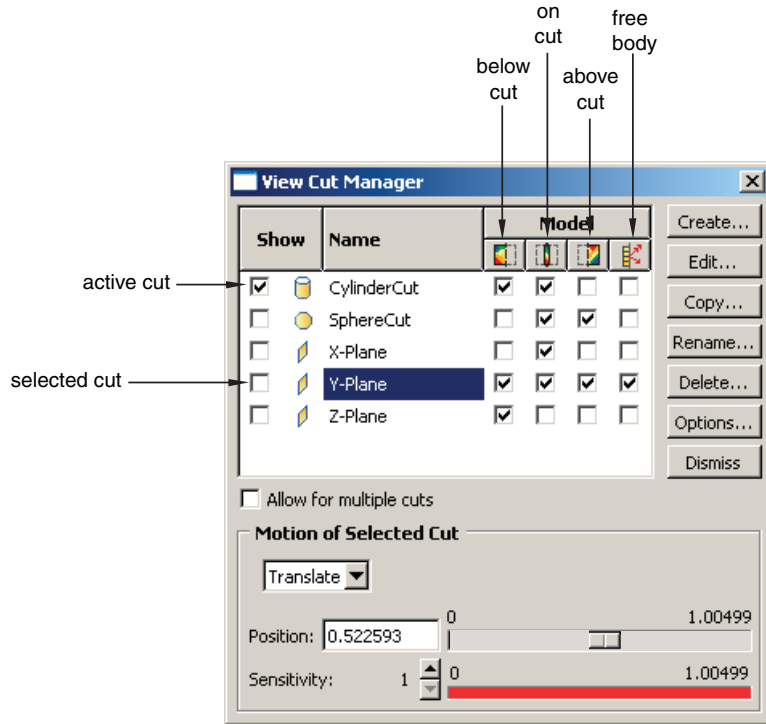

Figure 80–3 The **View Cut Manager** dialog box in the Visualization module.
For view cuts of output database data in the Visualization module you can also display the resultant forces and moments, and you can compute these values based on the entire model or based on the current display group. The example shown in Figure 80–4 includes the resultant force and moment displayed for a view cut of a landing gear assembly. You can display the resultant force and moment on a view cut only for solid geometry, shell sections, or beam sections; for shell sections and beam sections the output database must include section force (SF) and section moment (SM) output for resultant forces and moments to be displayed. Abaqus/CAE does not support display of resultant forces and moments on view cuts for axisymmetric models. You can display the resultant force and moment on a view cut for any of the displayed view cuts in your session. Abaqus/CAE updates the resultant force and moment vectors and summation point as you reposition the view cut or animate the model.